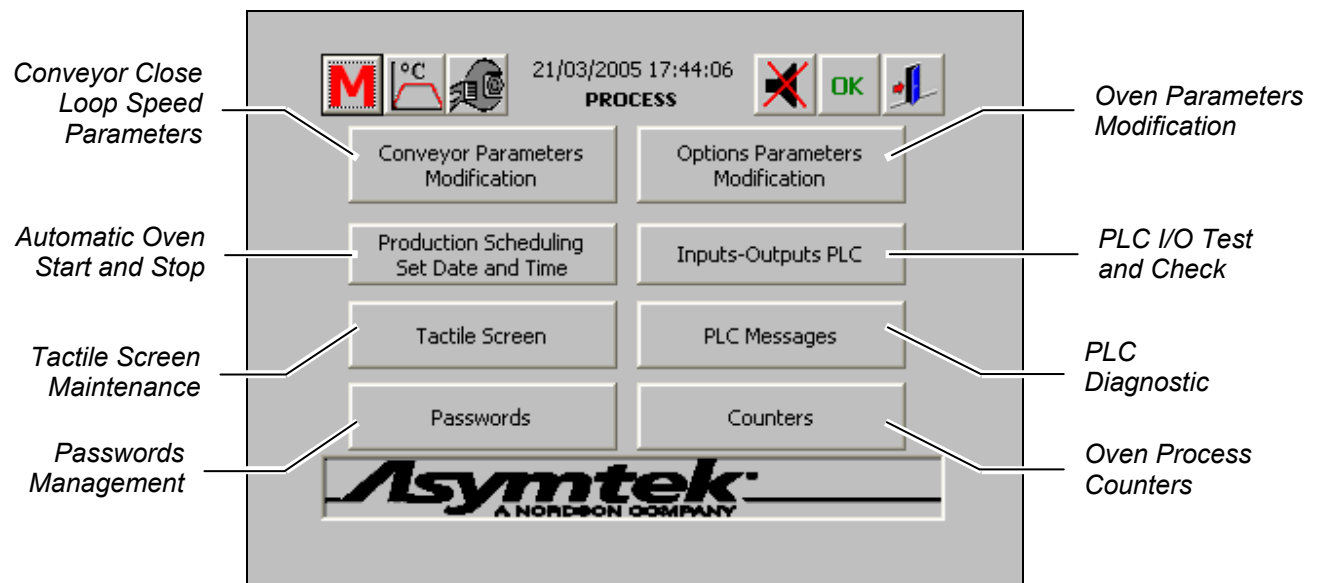

Figure 6-16 Control Menu
2. The Control Menu appears (Figure 6-16).